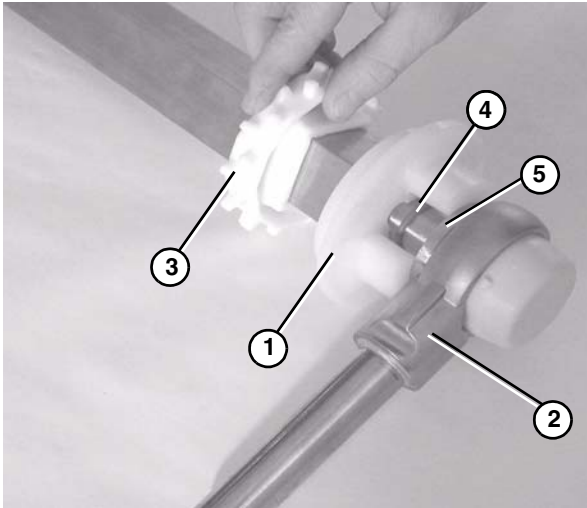

Figure 68
1. Attach a flanged puck (Figure 68, item 1), an O-ring (Figure 68, item 4), a washer (Figure 68, item 5) and a bearing shaft assembly (Figure 68, item 2) to the supporter end of the drive spindle.
2. Slide the first sprocket (Figure 68, item 3) onto the drive spindle.